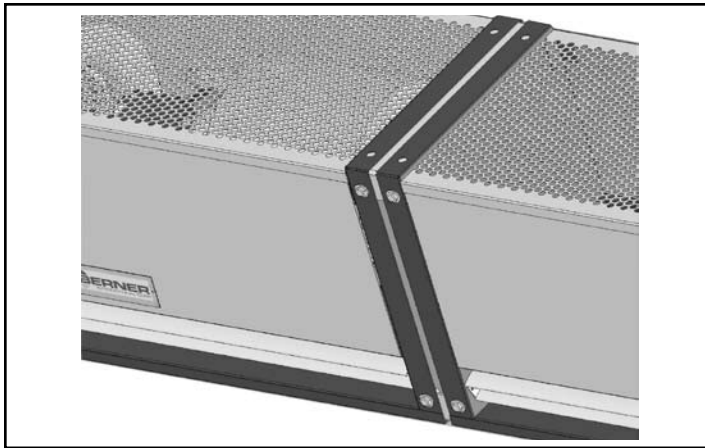

FIGURE 9 - Tandem Mounting
- D. Slide the endplate of the next unit over the brackets installed in Step C and attach using (4) additional ½" bolts as shown in **Figure 9**.